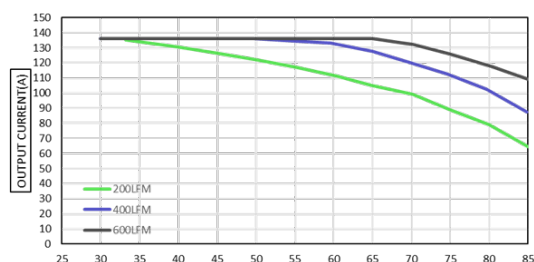

**Figure 18. Thermal Test Setup**
Increased airflow over the module enhances the heat transfer via convection. The thermal derating of figure 18–19 shows the maximum output current that can be delivered by each module in the indicated orientation without exceeding the maximum TH1 temperature versus local ambient temperature (TA) for several air flow conditions.